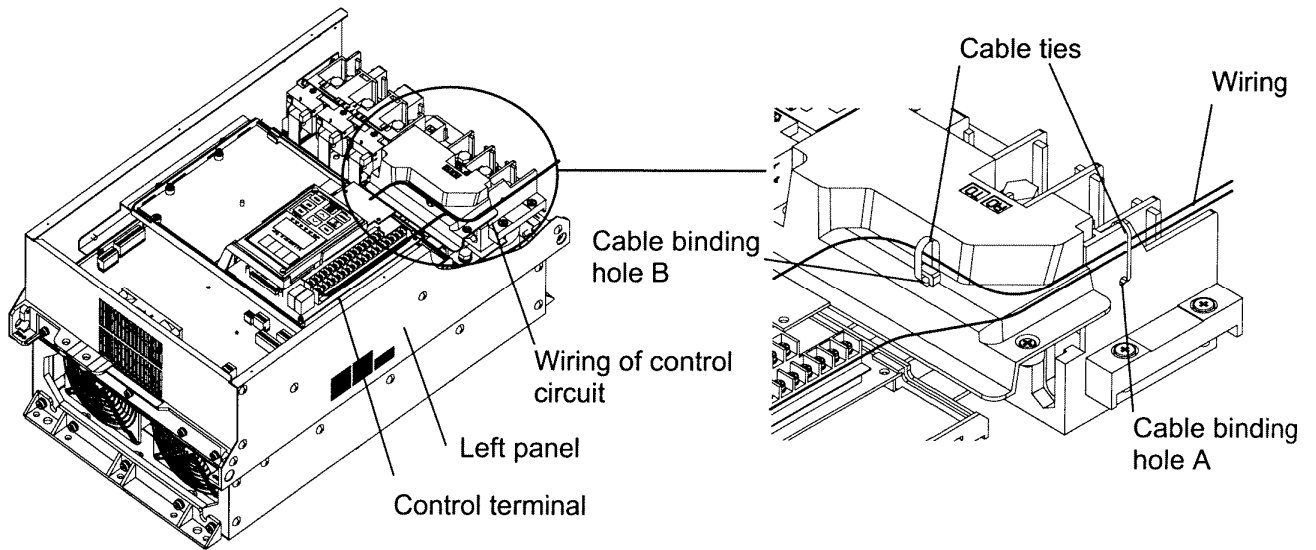

Fig. 2-3-11 Control Cable Routing and Securing for 40HP/CT, 50HP/VT and Greater
(3) Transistor output terminals (Y1 to Y4, CME)
(4) Sink or Source Logic selection
(5) Others
(6) Wiring of the control circuit (40HP/CT, 50HP/VT or greater)
a. Pull out the control circuit wiring along the left panel as shown in Fig. 2-3-11.